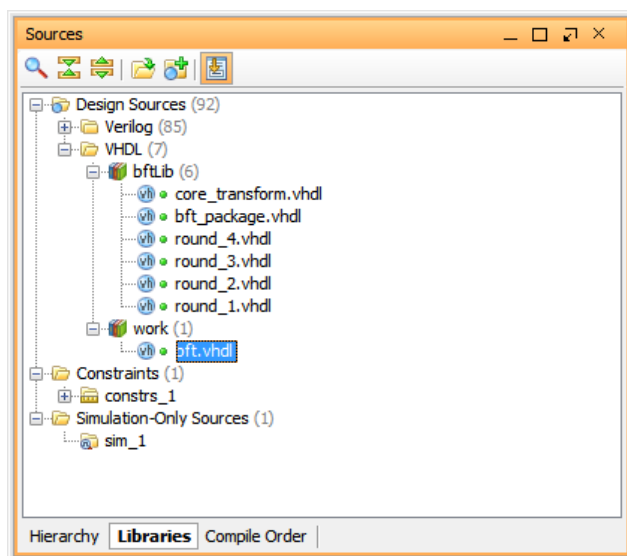

Figure 10: VHDL Library
7. **Verify** that the **VHDL** folder now looks as shown in Figure 10.